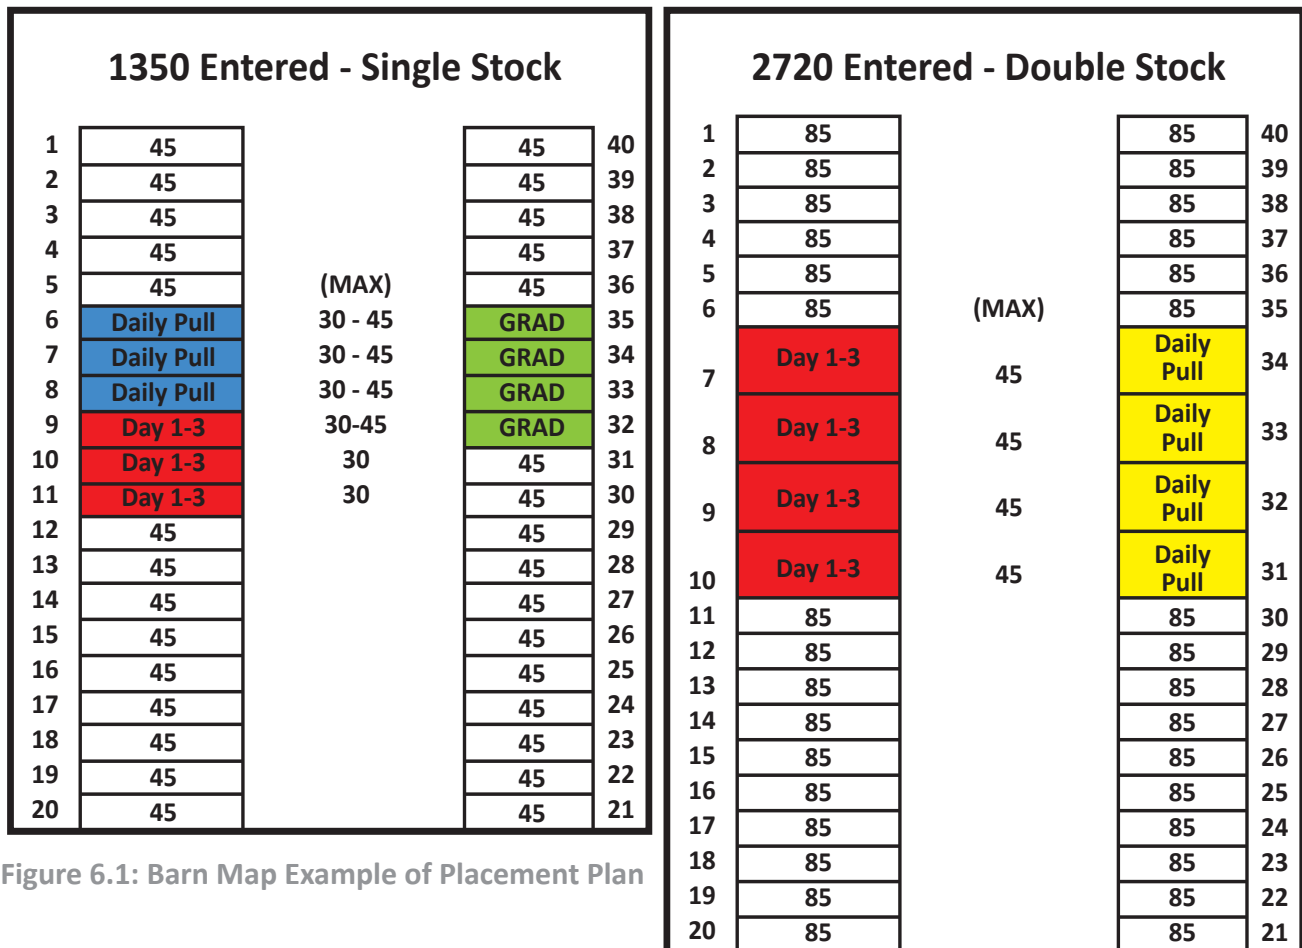

Figure 6.1: Barn Map Example of Placement Plan
- An example of a strategy for filling the barn and leaving available space open for intensive care treatment is shown in Figure 6.1.